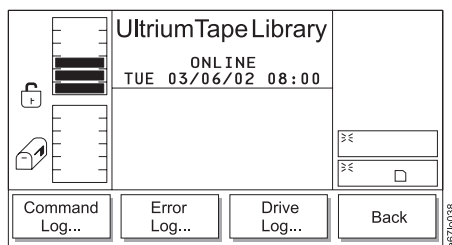

Figure 4-44. Logs Submenu
2. Press the button below the **Logs** softkey. The Logs Submenu displays (see Figure 4-44).